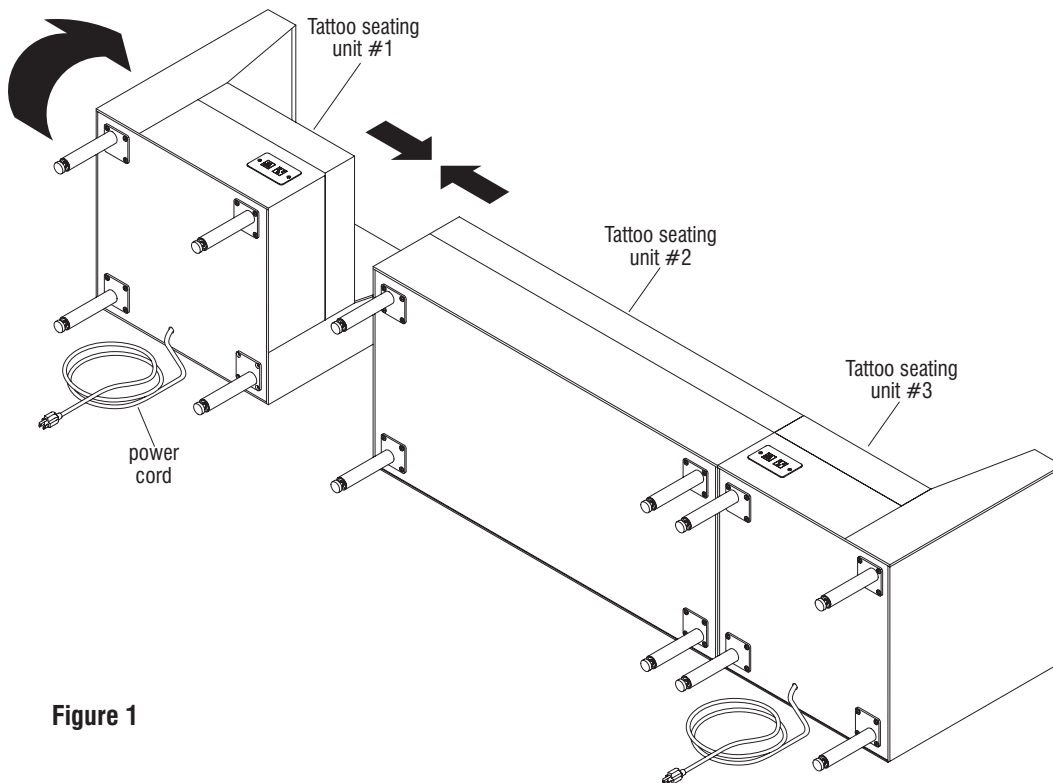

Figure 1
2. To gang side-to-side (in-line), carefully tip two or three seating units onto their backside on a soft protective surface to position for ganging (Figure 1).
3. Position Tattoo seating units together so that bottoms are aligned and flush (Figure 1).